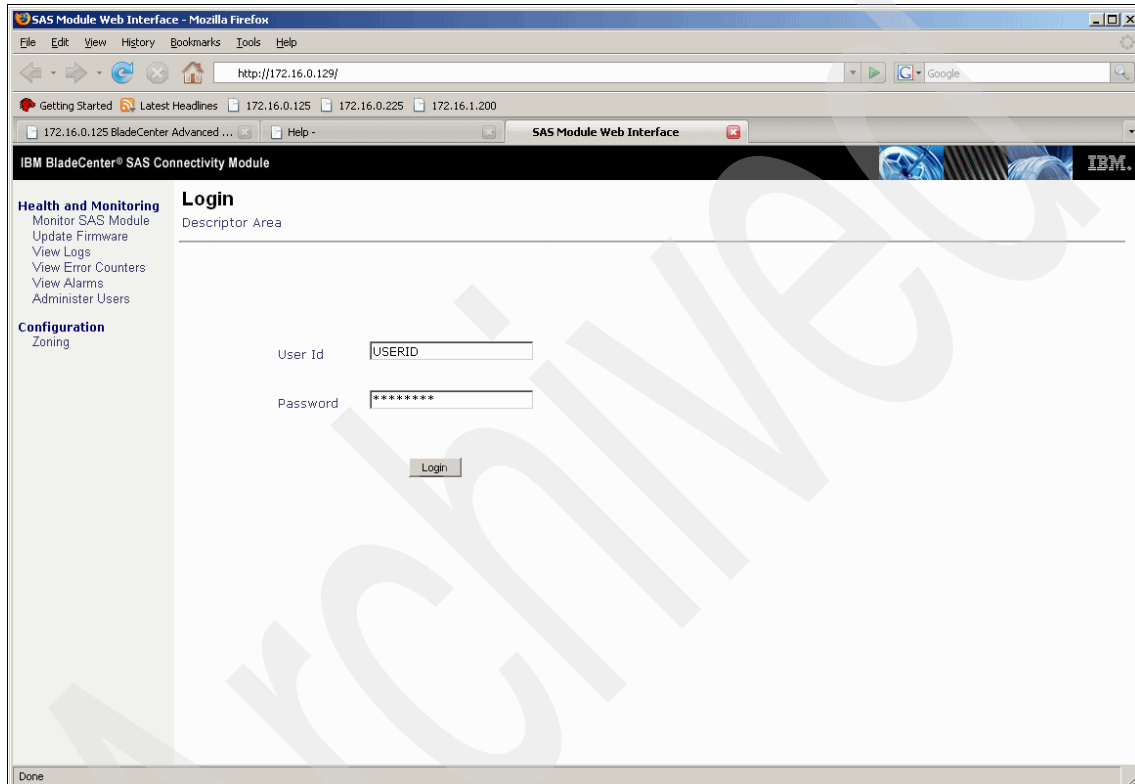

Figure 7-4 SAS Connection module login
To use a predefined configuration to a BladeCenter JS23/JS43 server, you must establish a connection to the SAS module, as shown in Figure 7-4, using a browser window directly connected to the SAS module.
1. Enter **User ID** and **Password** of the account that has access to the SAS module and click **Login**, as shown in Figure 7-4.